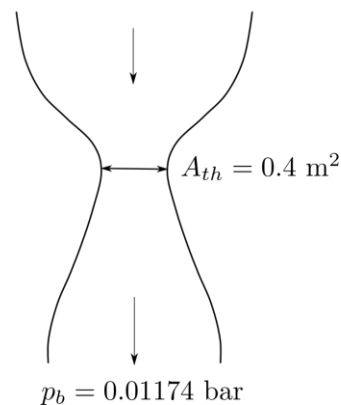

Figure Q1. Isentropic compressible flow inside a rocket nozzle
1. A rocket is propelled through burning hydrogen and oxygen. The hot burned gas (specific heat capacity ratio $k = 1.22$, gas constant $R = 519.6 \text{ J kg}^{-1}\text{K}^{-1}$) leaves the combustion chamber at $T_i = 3517 \text{ K}$ and $p_i = 25 \text{ bar}$ before being accelerated to reach supersonic speed through a convergent-divergent rocket nozzle, as shown in **Figure Q1**. The nozzle has a throat area of $A_{th} = 0.4 \text{ m}^2$. Assume that the burned gas behaves as an ideal gas, and its velocity at the inlet of the rocket nozzle is negligibly small, and the flow process through the nozzle is isentropic. The nozzle geometry is optimized for a back pressure $P_b = 1.174 \times 10^{-2} \text{ bar}$ (i.e. correctly expanded flow at the exit such that the gas exit pressure matches the back pressure). Useful formulae are given at the end of the question.